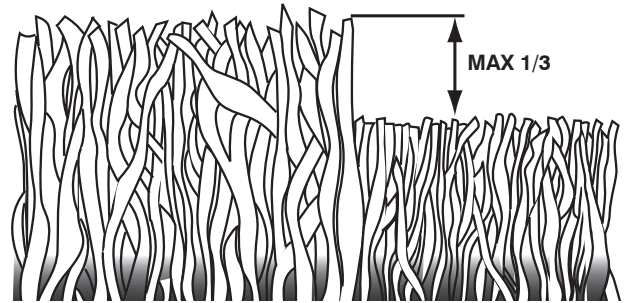

Figure 18
- For best results, adjust the lawn mower cutting height so that the lawn mower cuts off only the top one-third of the grass blades (Figure 18). If the lawn is overgrown it will be necessary to raise the height of cut to reduce pushing effort and to keep from overloading the engine and leaving clumps of mulched grass. For extremely heavy mulching, reduce your width of cut by overlapping previously cut path and mow slowly.